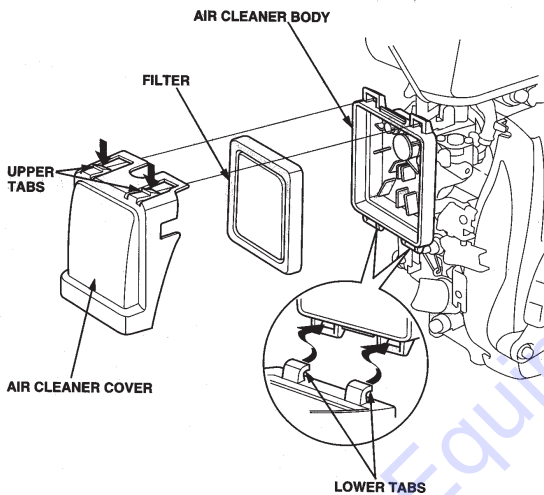

Figure 24. Engine Air Cleaner
1. Press the latch tabs on the top of the air cleaner cover and remove the cover and foam filter element as shown in Figure 24.